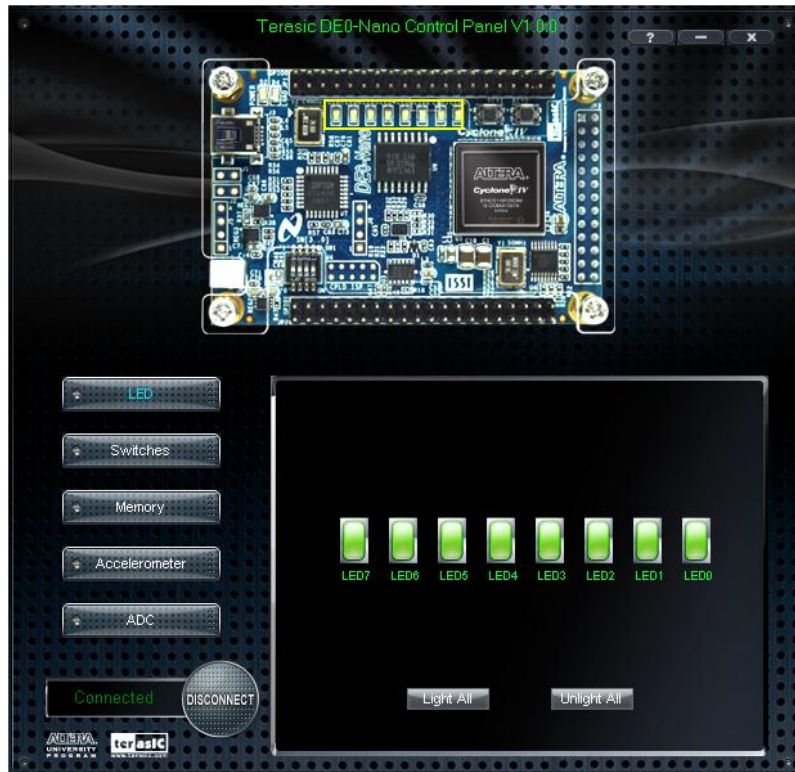

Figure 4-1 The DE0-Nano Control Panel
3. Start the executable DE0_NANO_ControlPanel.exe on the host computer. The Control Panel user interface shown in **Figure 4-1** will appear.